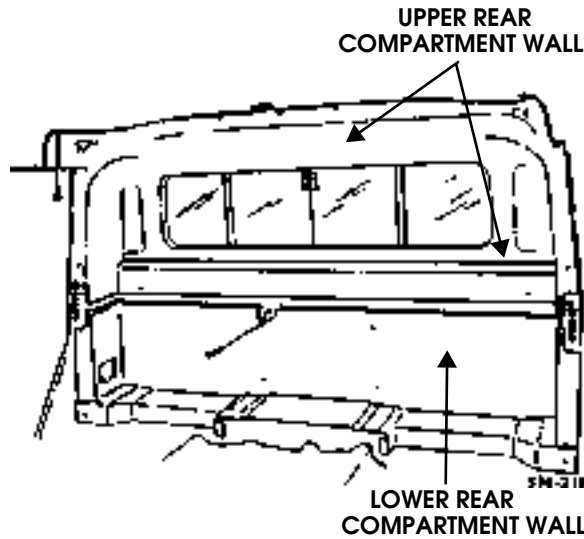

Figure 10-43: Rear Compartment Wall Location
- Secure rear edge trim and B-beam trim to B-beam and rear compartment wall with screw/washer assemblies (Figure 10-43).